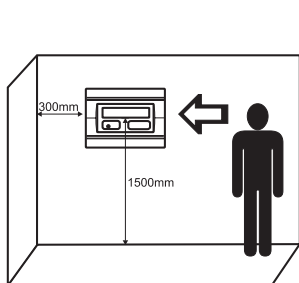

Figure 1.
- Select the best location for the panel away from sources of heat, environmental dust and potential water ingress, with an ambient temperature of between  $-5^{\circ}\text{C}$  and  $+40^{\circ}\text{C}$ , Figure 1.